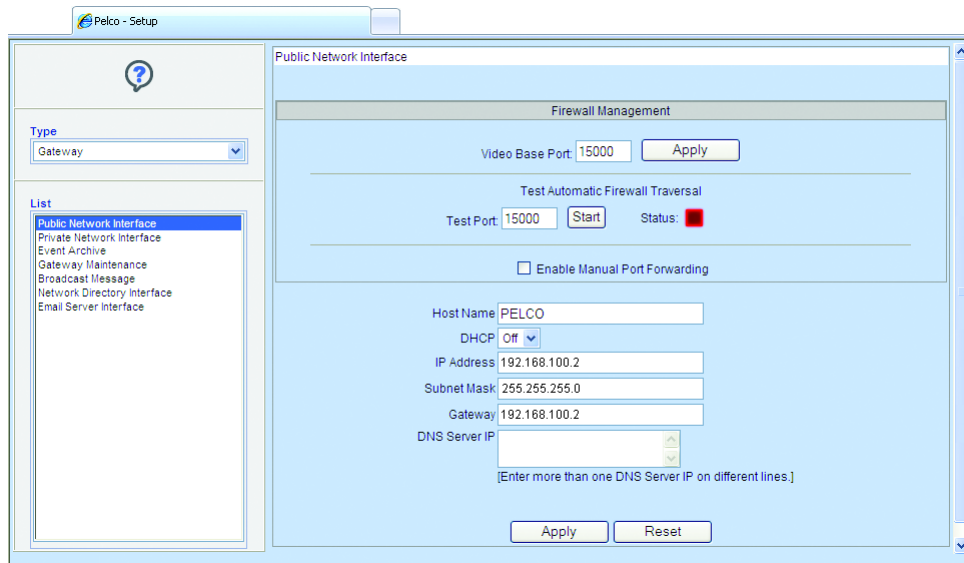

Figure 17. Testing the Web Client Connectivity
2. Enter or select the appropriate information for your WAN site (refer to Figure 17 on page 21):